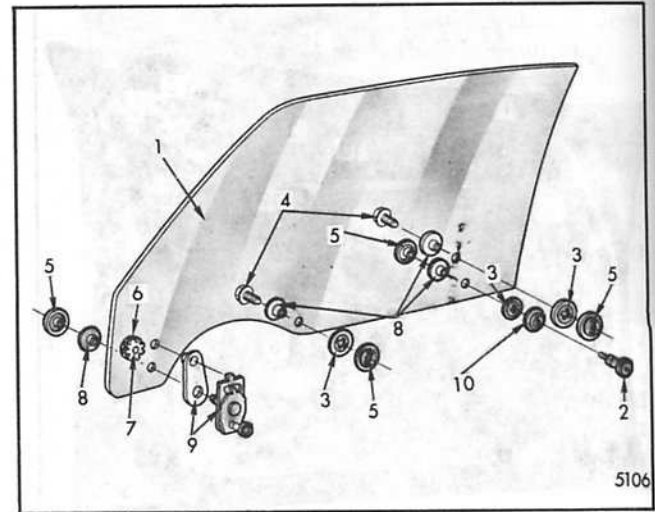

Fig. 5-116-Door Window Assembly - "F" Styles
Figure 5-116 is an exploded view of the window assembly and identifies the various components and their assembly sequence.
**NOTE:** When installing glass attachments, torque attaching nuts to 72 inch-pounds (6 foot-pounds). Also, when replacing door glass, replace door glass washers and spacers ("3" and "8", Fig. 5-116). When the glass is cycled, it must not come in contact with the blow-out clip.